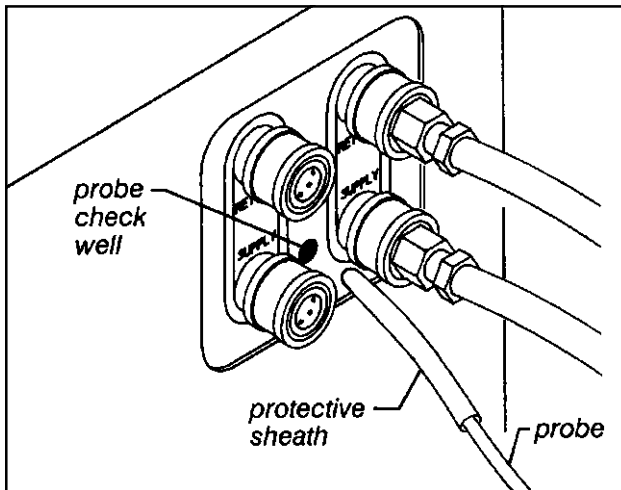

Figure 11—Probe Check Well
2. *CHECK PATIENT PROBE* alert may sound if machine is placed in *MANUAL*, *AUTO*, or *MONITOR* mode before patient probe has been inserted in patient, since probe will be sensing room temperature. Place probe in patient and wait five (5) minutes before pressing *MANUAL*, *AUTO*, or *MONITOR* mode button.
3. Check probe to make sure it has not become dislodged from patient. Reinsert and tape securely if required. Wait five (5) minutes before pressing *AUTO* mode button.
- a. Insert probe into protective sheath and then into *PROBE CHECK WELL* on front of machine base (fig. 11).